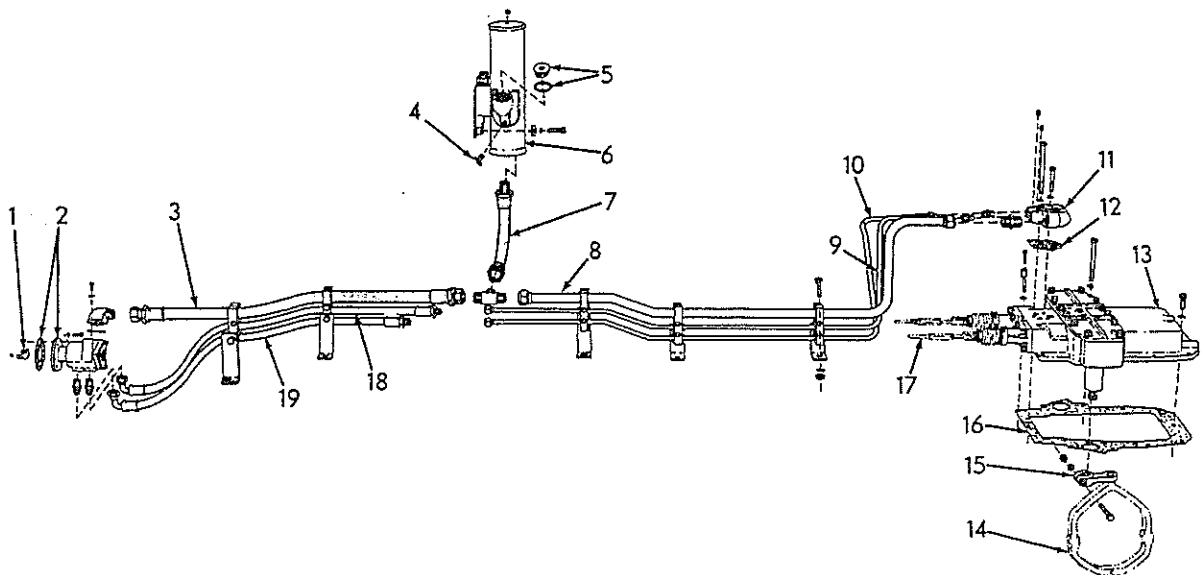
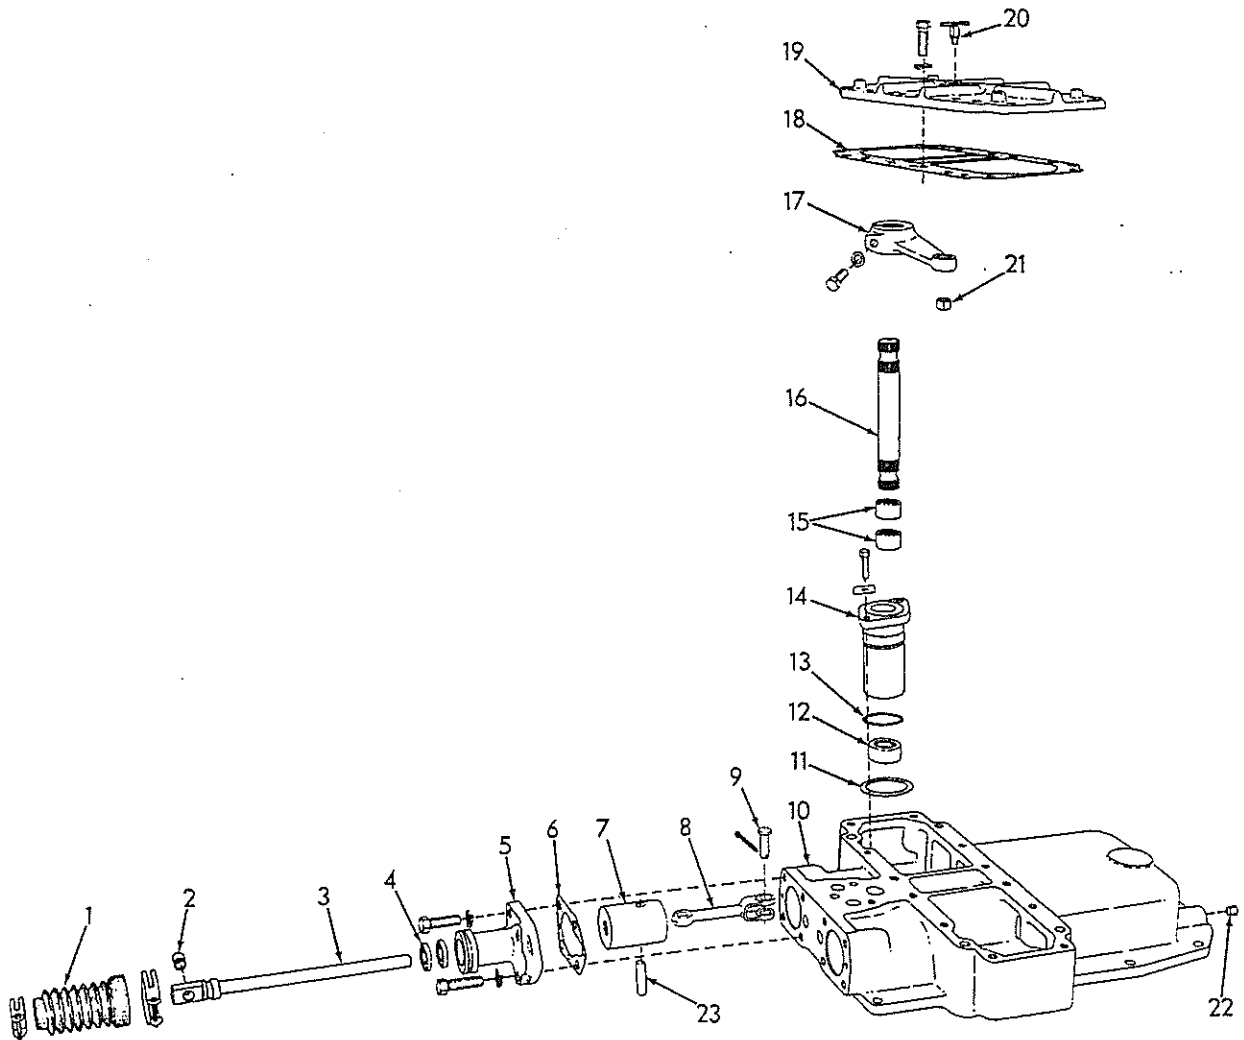

Fig. 1 -- Steering Hydraulic System (HD11, eff. S/N 6069 and up)
Fig. 2 -- Hydraulic Control Valve Parts
Steering hydraulic system, Fig. 1, consists of control valve, oil pump, oil reservoir, and necessary lines; system provides power assist to disengage steering clutches and is controlled by mechanical linkage activated by operator. Hydraulic system pressure is non-adjustable; system is designed with proper "built-in" operating pressure to disengage steering clutches.
- c. Disconnect hydraulic lines and control rods; remove manifold, Fig. 1 (11).
- d. Remove control valve attaching capscrews and clutch compartment covers; loosen actuating levers, Fig. 1 (15) from actuating
Disassemble valve as shown in Fig. 2; refer to following notes:
- a. Do not remove piston pin, Fig. 2 (23), unless piston or connecting rod is to be replaced.
- b. Remove o-ring, Fig. 2 (13), before removing retainer (14).
- a. Press actuating shaft top bearing, Fig. 2 (15) into retainer (14), 1/4" below top surface of retainer; press bottom bearing into retainer (from bottom) until flush with bearing bore; install new seal (12) into seal bore of retainer (lip toward bearing).
- b. Position new retainer gaskets, Fig. 2 (11); install and secure retainers. Place new O-
- d. Attach connecting rod, Fig. 2 (8) to piston
- e. Press new seals, Fig. 2 (4) in spool brackets (lip of inner seal facing in, lip of outer seal facing out); position new bracket gaskets on housing (use gasket cement on housing and brackets) and secure brackets to housing.
Install oil manifold, Fig. 1 (11) and new gasket (12) in position on top of manifold (coat both sides of gasket with gasket cement); connect pressure and return lines to manifold.
Loosen vent cock, Fig. 2 (20) and fill system with specified oil through reservoir filler plug, Fig. 1 (5); install seat assembly and fuel tank. Recheck oil level in reservoir after engine has run a few minutes.
- a. Clean pump and surrounding area; disconnect suction and pressure lines, Fig. 1; remove pump and drive coupling.